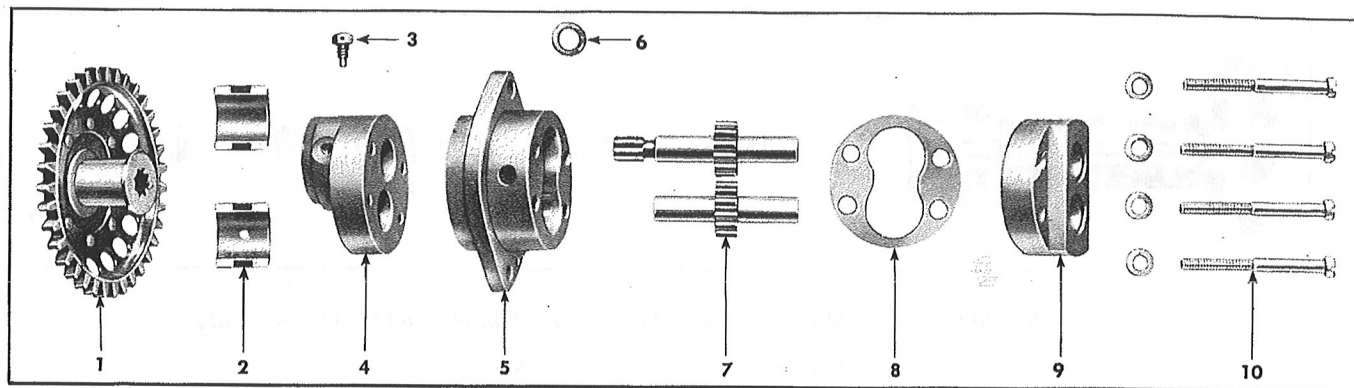

Figure 208—Exploded View of the Oil Pump
2. For information only, therefore, an exploded view of the pump parts is shown above. See Figure 208.